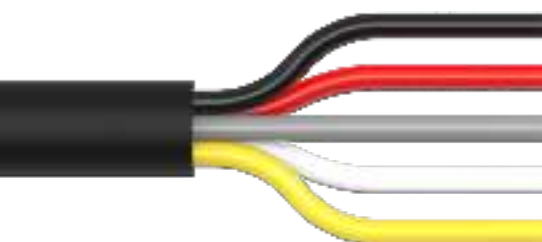

FIG. 3
6. See Fig. 3 for individual wire functions. Refer to the perimeter strobe light instructions to program the **RED**, **GREY** and **WHITE** wires to desired strobe patterns.